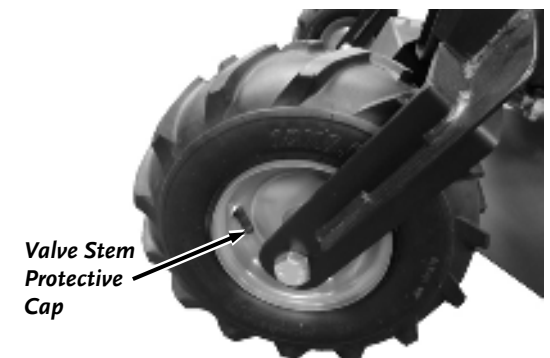

Figure 12
1. Remove the Valve Stem Protective Cap (*Figure 12*) and check the tire pressure with a Tire Pressure Gauge.